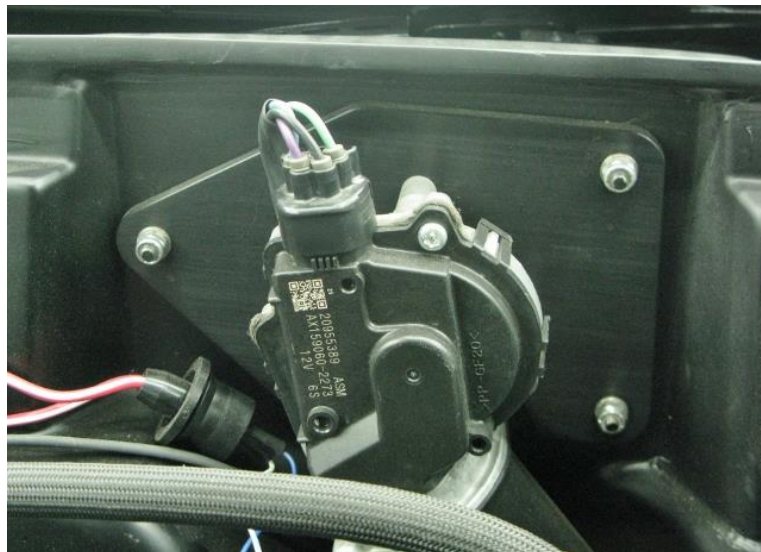

Figure 3 – Attach Wiper Motor to Firewall
6. Mount the new wiper motor assembly to the firewall stud plate using the 3 supplied 10-24 Nylock flange nuts (Figure 3).